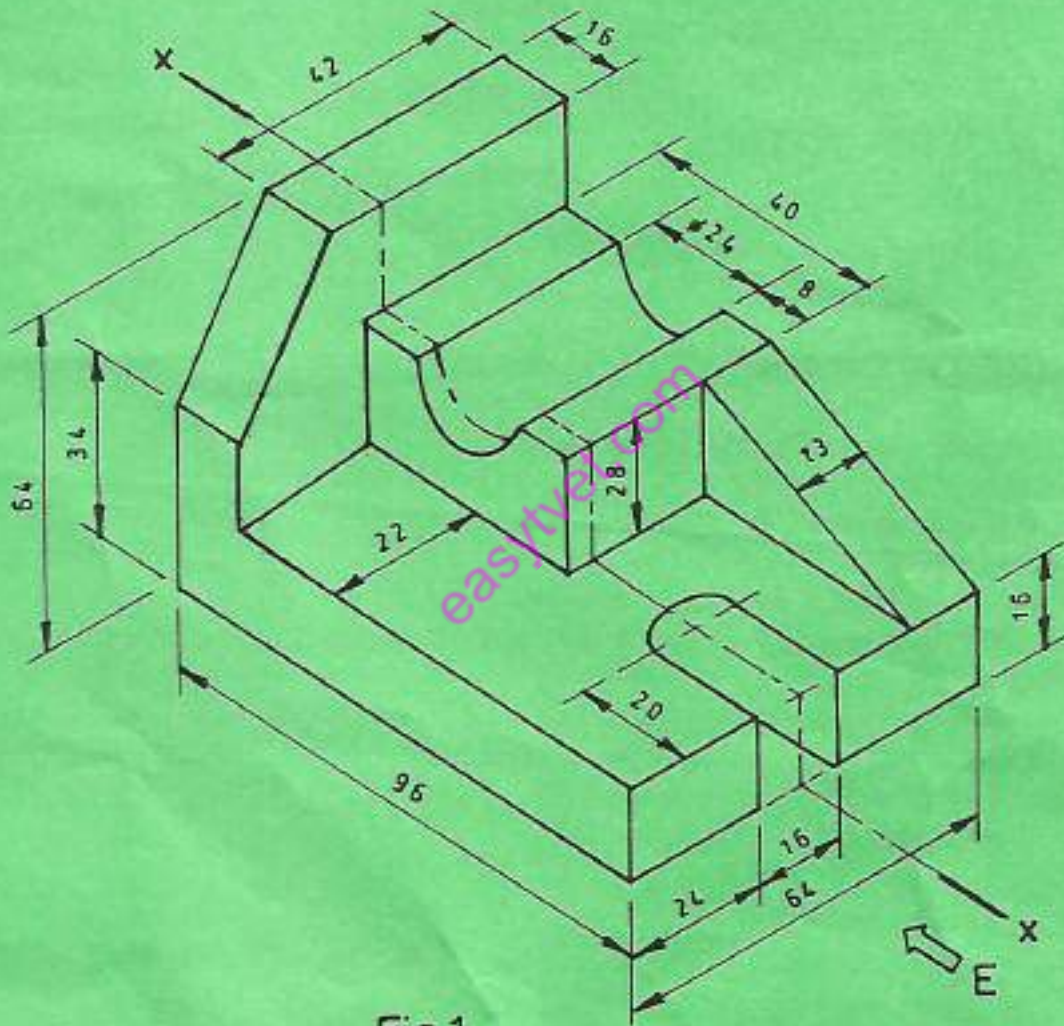

Fig.1
1. Figure 1 shows a cast iron block. Draw the following views in first angle projection.